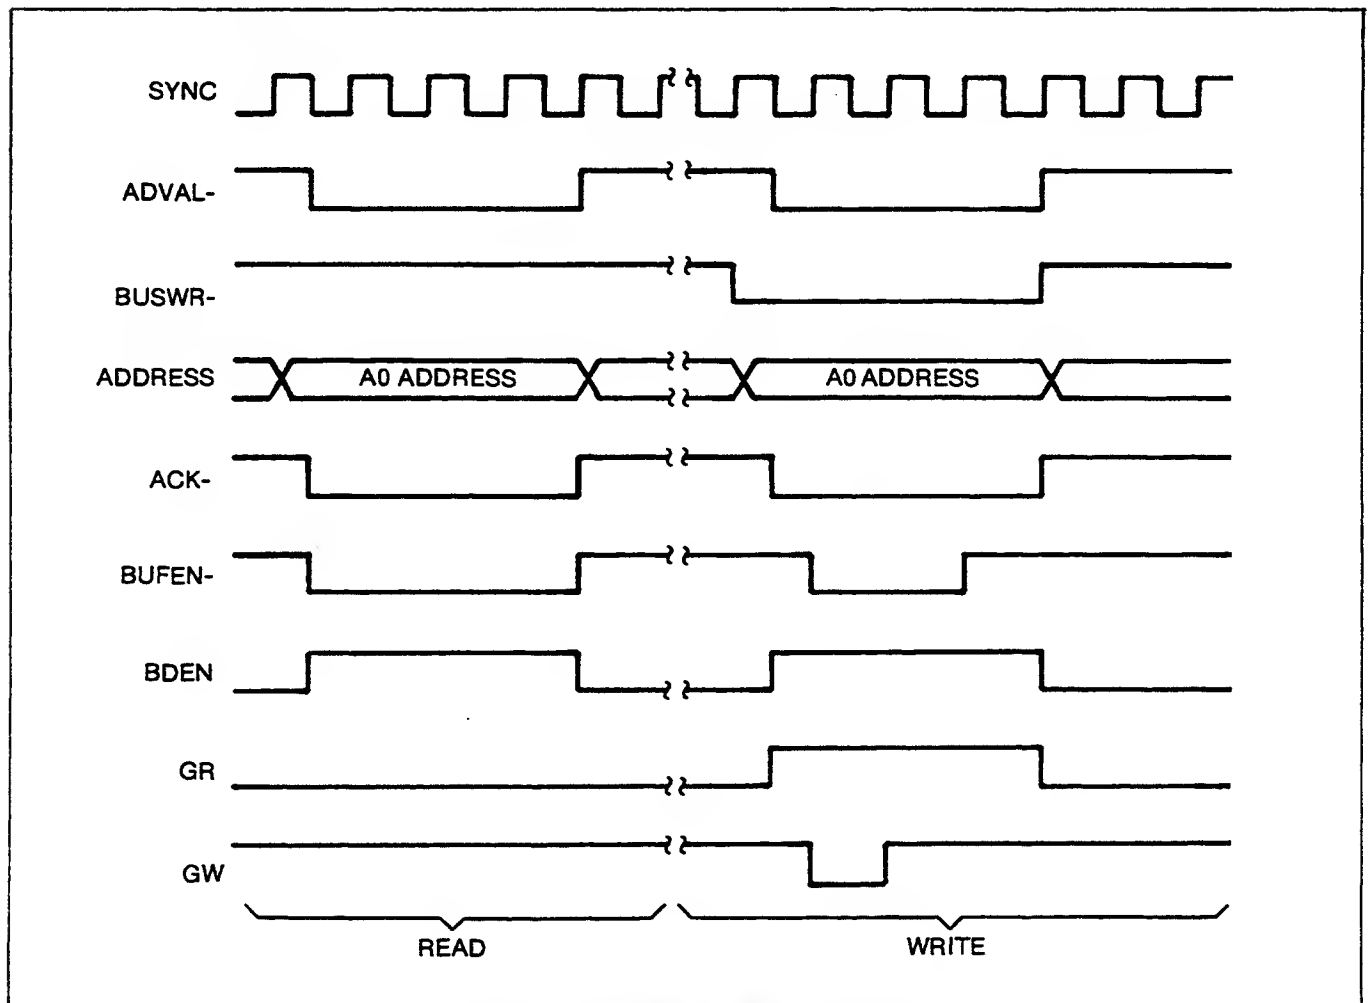

Figure 011-3. Register Read/Write Timing
Figure 011-3 illustrates register read/write signal timing. An analog output read cycle occurs when the BUSWR- signal is held high by the SBC. As shown in the figure, when BDEN (generated in the address decode logic) and BUSWR- are both a logic 1, the Register Read (GR) and the Register Write (GW) signals generated in the control logic are set to a logic 0 and a logic 1 respectively, allowing a register read operation to occur. A logic 1 on
An Analog Output write cycle occurs when the BUSWR- signal is driven low by the SBC. The SBC can then write 16 bits of new output level data into one of the four output channel registers. As shown in Figure 011-3, when BDEN is at a logic 1 and BUSWR- is at a logic 0, the Register Read (GR) signal generated in the control logic goes to a logic 1. After the next rising edge of the SYNC signal from the SBC, the Register Write (GW) and BUFEN- signals are driven low by the control logic, allowing a register write operation to occur. One SYNC cycle later, the control logic sets the GW signal to a logic 1, latching the data on the ARGUS Bus into the addressed output channel register. One SYNC cycle after the control logic sets GW to a logic 1, BUFEN- is set to a logic 1, disabling the data transceivers. When BDEN goes to a logic 0, the write cycle is completed.